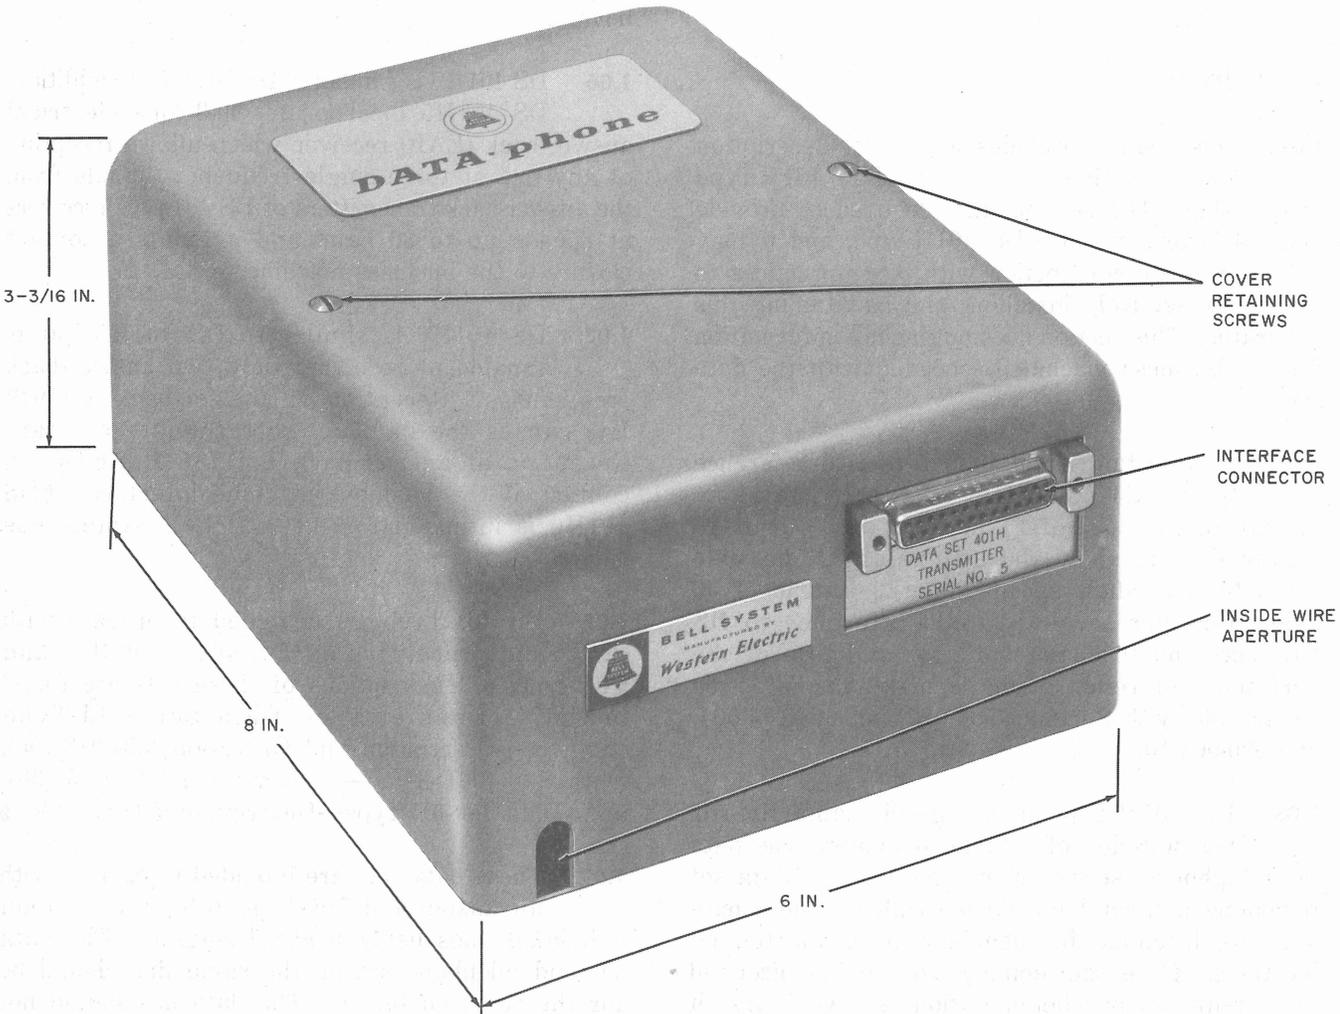

Fig. 1—Data Set 401H1, 401H2, or 401H3
2.01 DS 401H-type is housed in a gray drawn metal housing and weighs approximately 4-1/2 lbs. Physical dimensions of data sets 401H1, H2, H3, and 401H4, H5, and H6 are given in Fig. 1 and 2, respectively. A weatherproof housing must be provided if used in exposed locations.